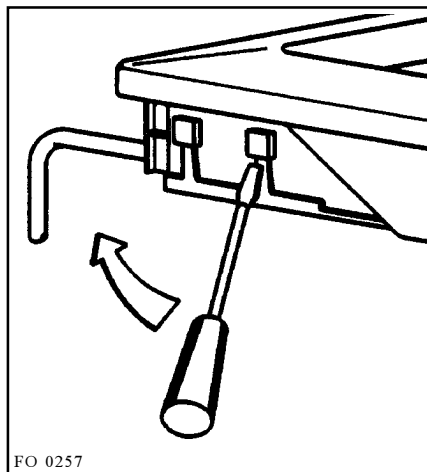

Fig. 6
- exert a light pressure and lift (Fig. 6)